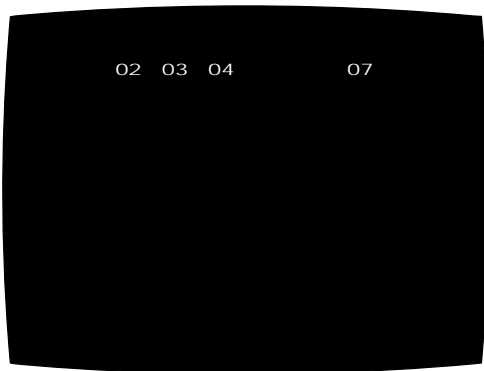

Fig. 6-3
- 2) Press the “1, 4” buttons on the remote control. The option setting appears. (See Fig. 6-3)